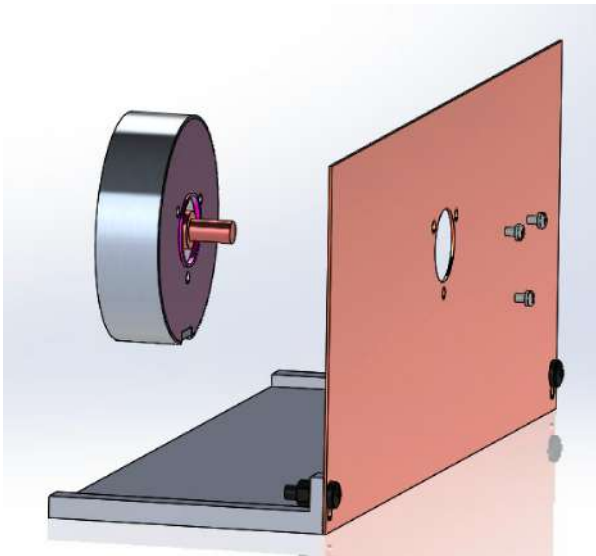

Figure 6: Motor connected to Motor stand via three M4 screws
2. Using three M4 and three M4 washers, connect the piezoelectric motor to the copper face. Motor cable connection should point down, as illustrated in figure 6.